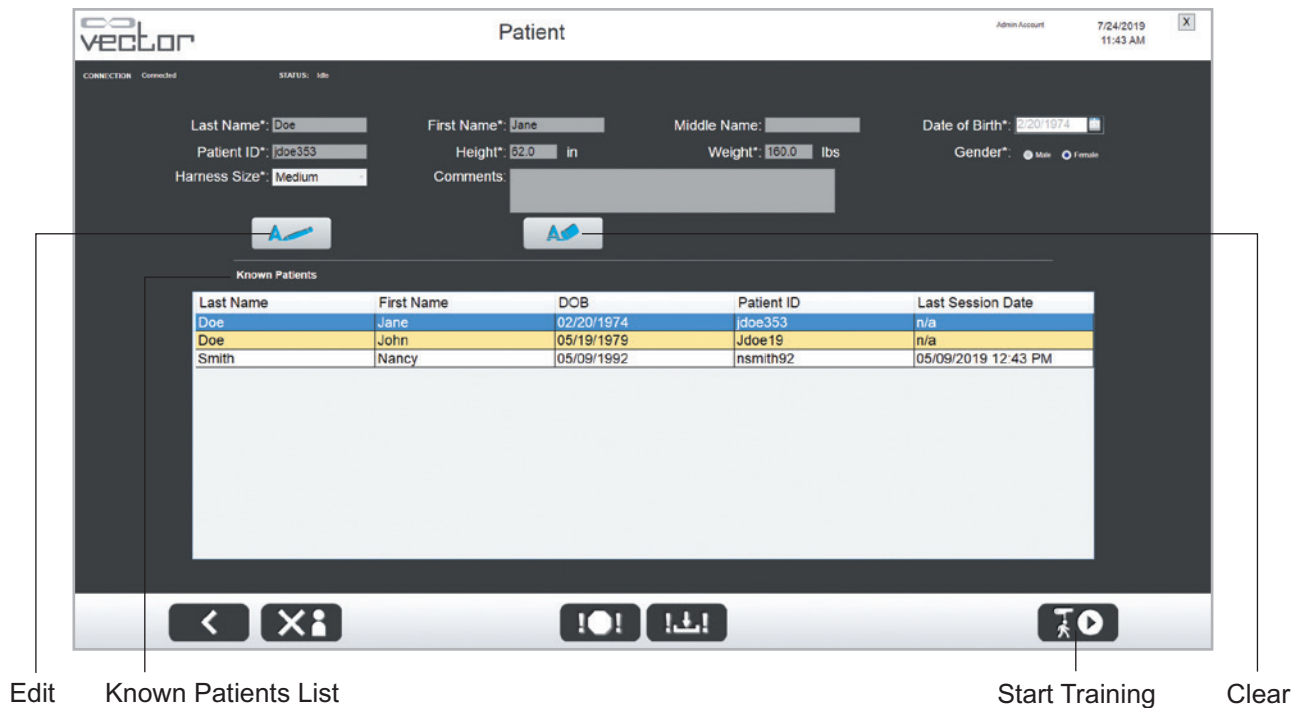

Figure 5-2: Selecting an Existing Patient
4. Once the patient has been selected, the data fields will auto-fill with the patient's information. Edit the patient's information by pressing the Edit button. Press the Clear button to clear data from all of the field. See Figure 5-2.
5. Press the Start Training button to open the Training Session screen. See Figure 5-2.